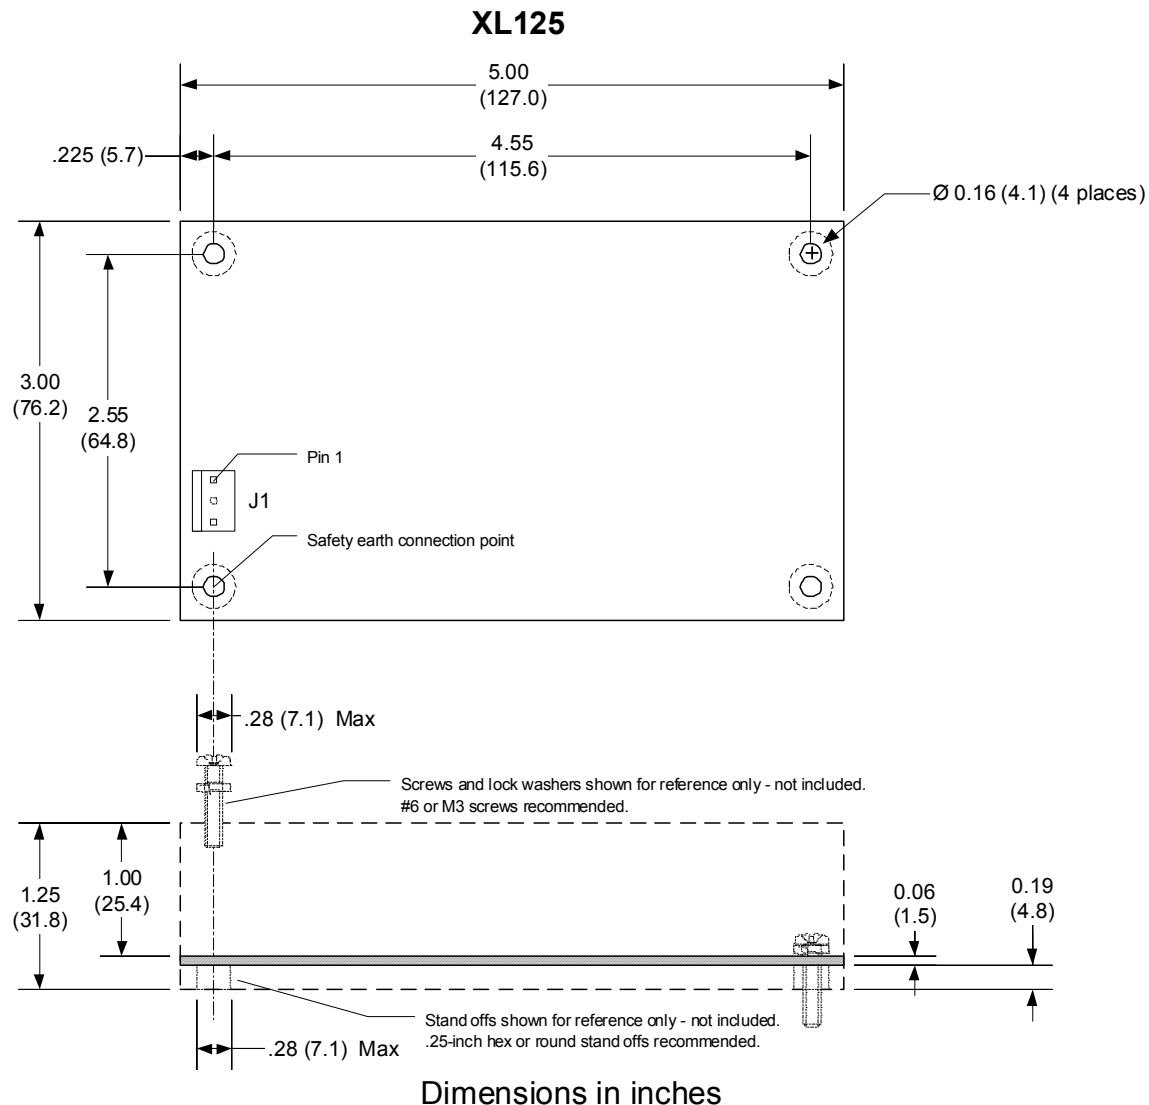
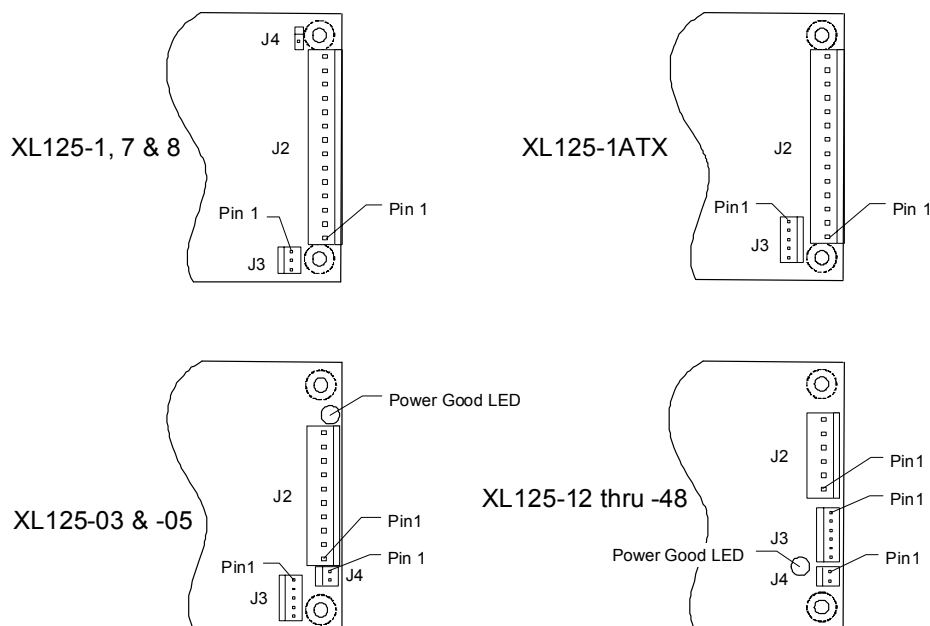

Figure 4-2 XL125 Dimensions
Figure 4-3 XL125 Output Connectors Layouts
The XL125 may be mounted in any attitude but must be mounted on all four corners. No. 6 or M3 mounting hardware should not exceed .282-inches (7.16-mm) in diameter for any lockwasher, flat washer, standoff, screw head or other mounting hardware to avoid contact and maintain adequate safety agency spacing requirements with components or printed circuit board traces. The XL125 requires a safety earth connection at the mounting hole nearest J1 (See Figure 4-2).
The pin-1 location differs amongst connector manufacturers. Sometimes pin-1 differs between the header (on the power supply) and the mating housing from the same manufacturer. Disregard the manufacturer's pin-1 location and follow only the pin-1 locations in Figure 4-2 and Figure 4-3.
- Refer to Figure 4-3 for connector and pin-1 locations
A green LED on XL125-12 through -48 models illuminates whenever the Power Good signal is true (high). See Figure 4-3 for the LED location near the output connector.